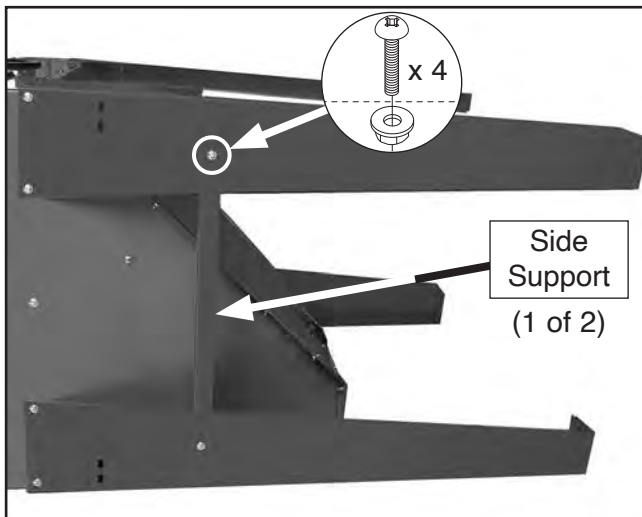

Figure 6. Leg installation.
2. Using #2 Phillips screwdriver, fasten (4) legs to underside of cabinet with (16) M6-1 x 12 Phillips head screws and flange nuts (see **Figure 6**).
3. Attach (2) side supports (see **Figure 6**) to left and right set of legs with (4) M6-1 x 12 Phillips head screws and flange nuts.